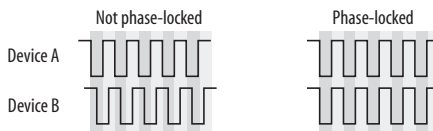

Figure 3-16: When transferring audio, two devices must have phase-locked audio clocks to prevent clicks, pops or other artifacts.
- The 2408mk3 or other interface is connected to other digital audio devices, and their digital audio clocks need to be *phase-locked* (as shown in Figure 3-16).